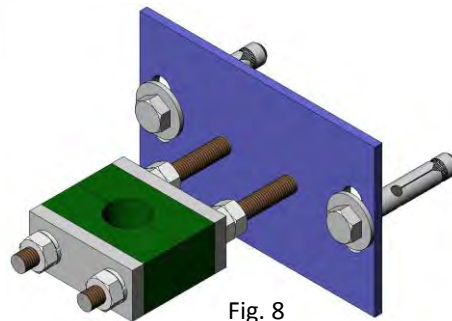

Fig. 8
- A stem support-guide (Fig. 8) is recommended every 1.5m.